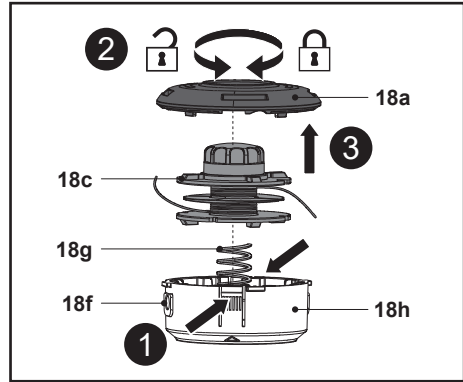

Fig. 26
5. Press the release latches (18e) on both sides and hold them in position (Fig. 26, step 1), then rotate the cover (18a) counter-clockwise to disengage it from the trimmer head (18) (Fig. 26, step 2).
6. Remove the cover (18a) and the trimming spool (18c) from the housing (18h) (Fig. 26, step 3).